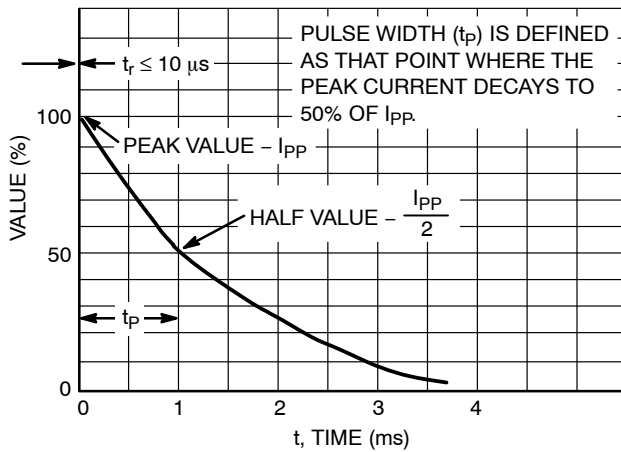
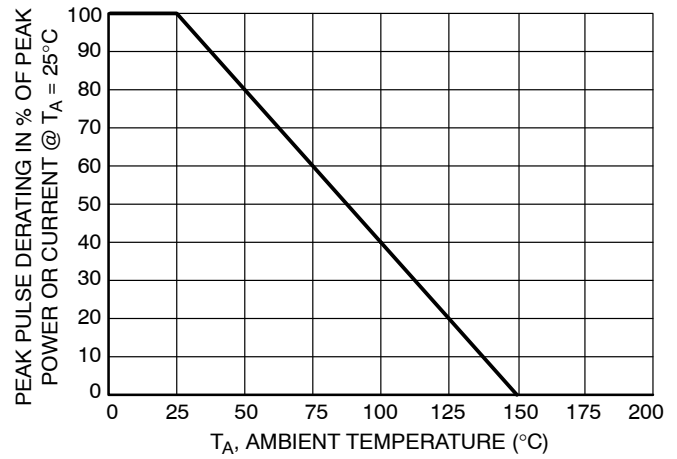

Figure 6. Pulse Waveform
Figure 7. Pulse Derating Curve
6. Surge current waveform per Figure 6 and derate per Figure 7